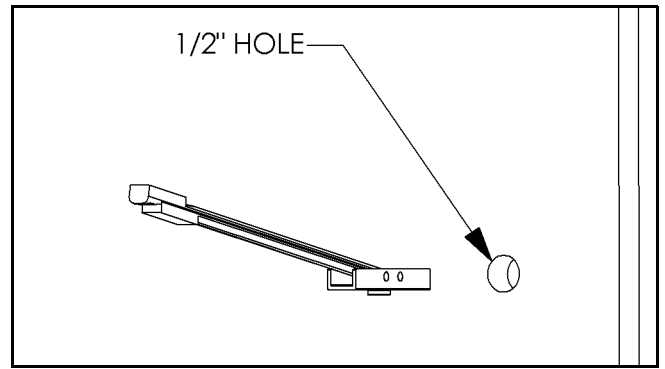

Figure 9:
2. Using the speaker wall bracket (20) as a template, mark the location of the two mounting holes.
3. Drill a 1/2" hole at the desired location, making sure wall is at least 1/2" thick. If the wall is made with metal studs, it is recommended to install the anchor through the drywall and the metal stud (see Figure 9).